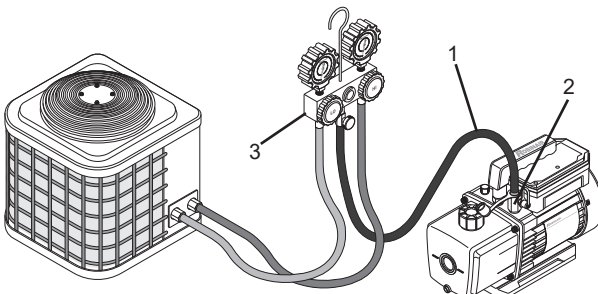

Figure 6
3. Connect a refrigeration service hose (1) to vacuum pump inlet (2) and the manifold gauge set (3) (see Figure 6).
4. Connect high-side and low-side service hoses to the respective service ports of the A/C-R system (see *Figure 6*).
1. Close manifold valve(s) between the pump and the system (see *Figure 6*).
2. Remove hose from pump inlet (2) (see *Figure 6*).
4. Cap the inlet port to prevent any contamination or loose particles from entering the port (2) (see *Figure 6*).